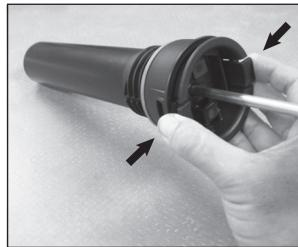

Figure 2
2. To remove pump cap from pump barrel, squeeze the tabs on the cap and pull away from barrel. (**See Figure 2**)